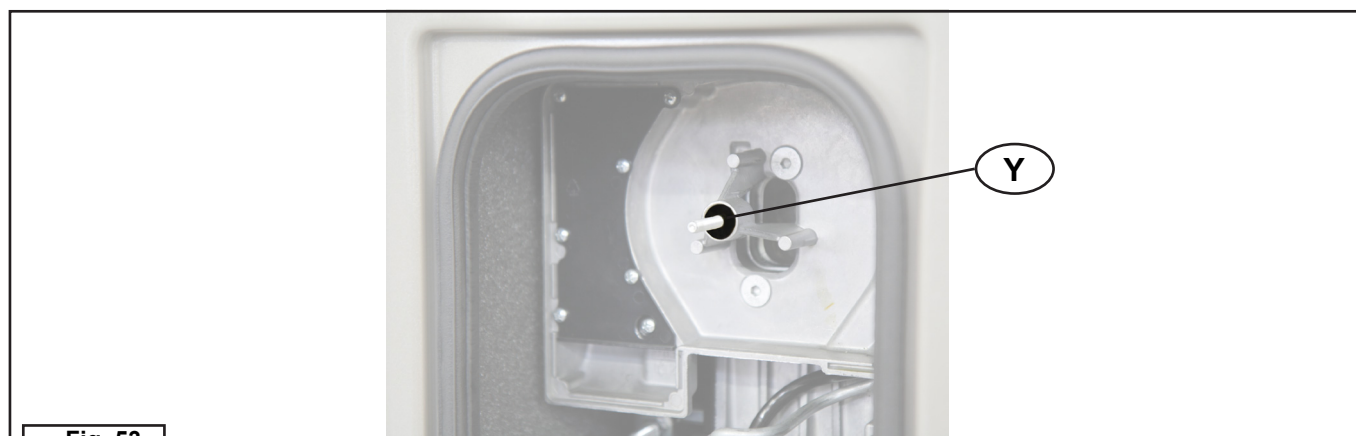

Fig. 53
22	Make sure the rubber gasket (Y) is intact, or replace if necessary (fig. 53).